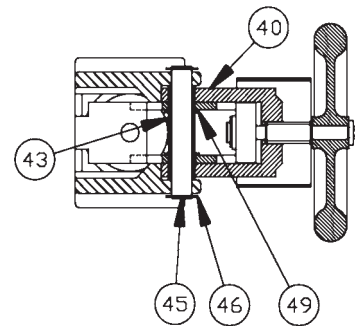

Figure 11
- S. Hold the handwheel holder (40) in position between the yoke legs as shown in Figure 11 and slide the lever pin (45) through the hole in the yoke and lever. Be sure that the levers (44) are below the stem flange (2).
- T. Secure the lever pin (45) with the second retaining ring (46).